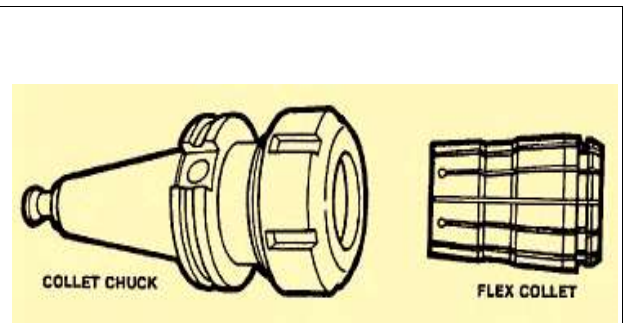

Figure 8-18. Quick-change adaptor and tool holder.
**Quick-Change Tooling:** The quick-change adaptor mounted on the spindle nose is used to speed up tool changing. Tool changing with this system allows you to set up a number of milling operations such as drilling, end milling, and boring without changing the setup of the part being machined. The tool holders are mounted and removed from a master holder mounted to the machine spindle by means of a clamping ring. (Figure 8-18).